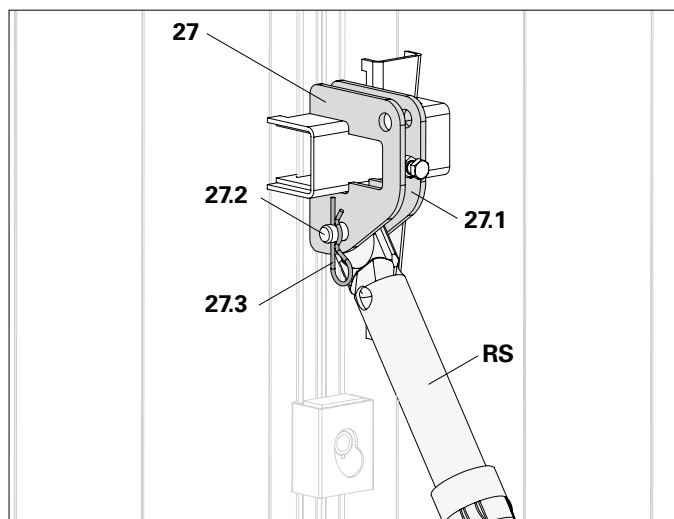

Fig. A6.08
Connect Push-Pull Prop (RS) and connection lugs (**27.1**) with bolts (**27.2**) and cotter pins (**27.3**). (Fig. A6.08)